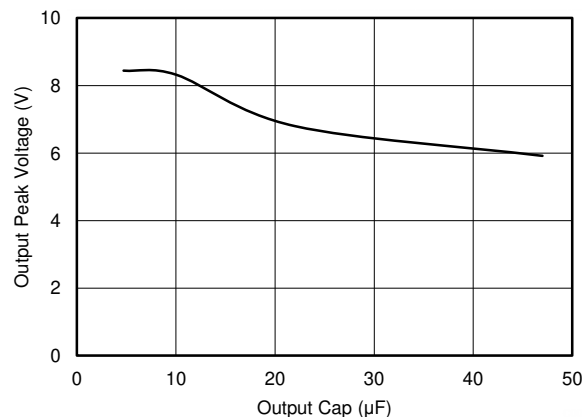

Figure 8-3. V_{OUT} Peak Voltage vs C_{OUT} (V_{IN} Step From 5 V to 15 V with 1-V/ μ s Ramp Up Rate)
When V_{IN} ramp up exceed 7.6 V, V_{OUT} follows V_{IN} until the TPS25200 turns off the internal MOSFET after $t_{(OVLO_off_delay)}$. Since $t_{(OVLO_off_delay)}$ largely depends on the V_{IN} ramp rate, V_{OUT} sees some peak voltage. Increasing the output capacitance can lower the output peak voltage as shown in Figure 8-3.
- For output capacitance, refer to Figure 8-3, low ESR ceramic cap is recommended.